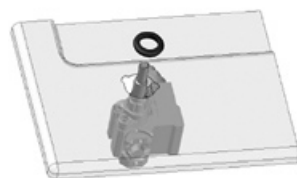

Fig. 4a
3. Set the required flame size using screwdriver (Fig. 4a, 4b).